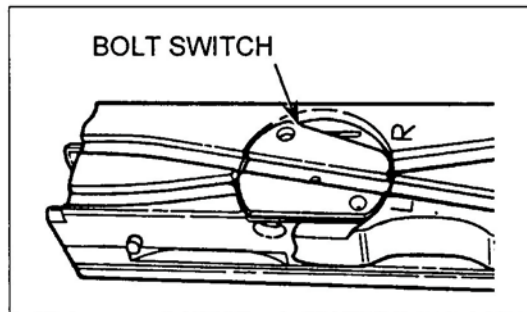

Figure 37. Setting of the bolt switch.
- (13) Place cocking lever in forward position. Determine the direction of feed before installing the bolt switch.
- (14) Place bolt switch in position so that the feed groove is continuous for feed direction indicated (Figure 37).